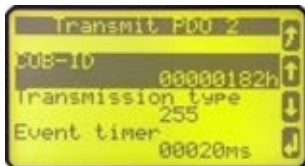

Fig. 171: TPDO configuration for 2nd IKD 1 (example HMI)
1. Set up TPDO2 for the easYgen on the front panel as shown in (Fig. 171).